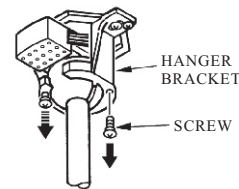

FIG. 13
3. Remove one of screws and loosen the other screw from the hanger bracket. (See fig.13)